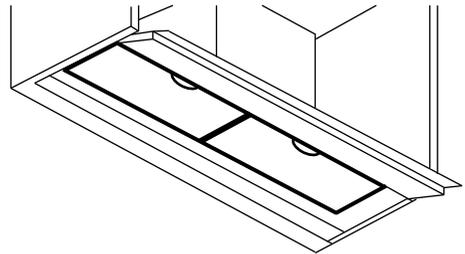

Fig 7
5. Open the Donizetti by down on both sides of the glass and pulling it forward (Fig 7).